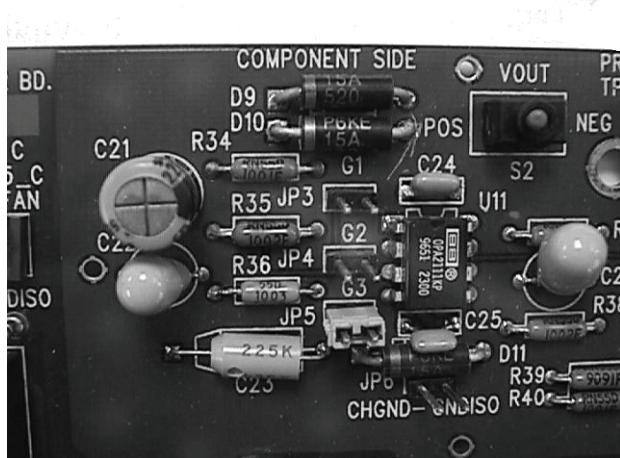

Figure 4.1. Close-up of the Model 5300 Detector Controller board
- Set the internal jumper on G3 in the Detector Controller (refer to Figure 4.1). G3 is the x10 setting; G2 is the x1 setting; and G1 is the x100 setting.